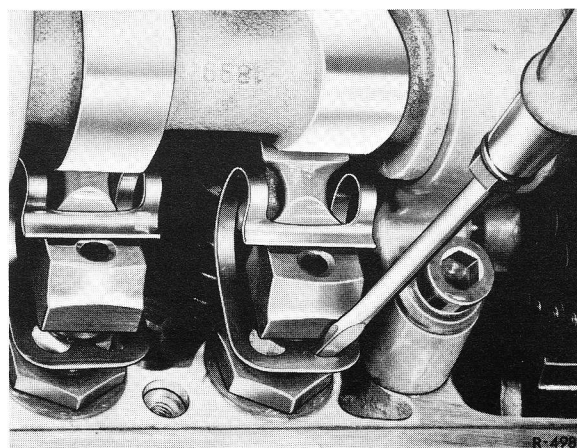

Fig. 1
- 3 Push out tensioning springs (Fig. 1) with a screw driver (05.1–230).